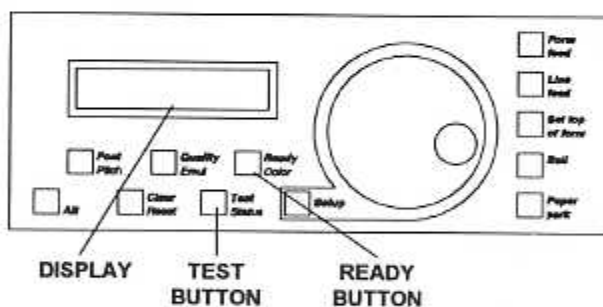

Figure 2-20. Printing a Self Test
2. To print an 8-inch-wide self test, press the Test button, as shown in figure 2-20. To print a 13.6-inch-wide self test, press the Test button twice in succession. The paper will feed into the printer, the TEST message will display on the control panel, and the self test will begin printing.